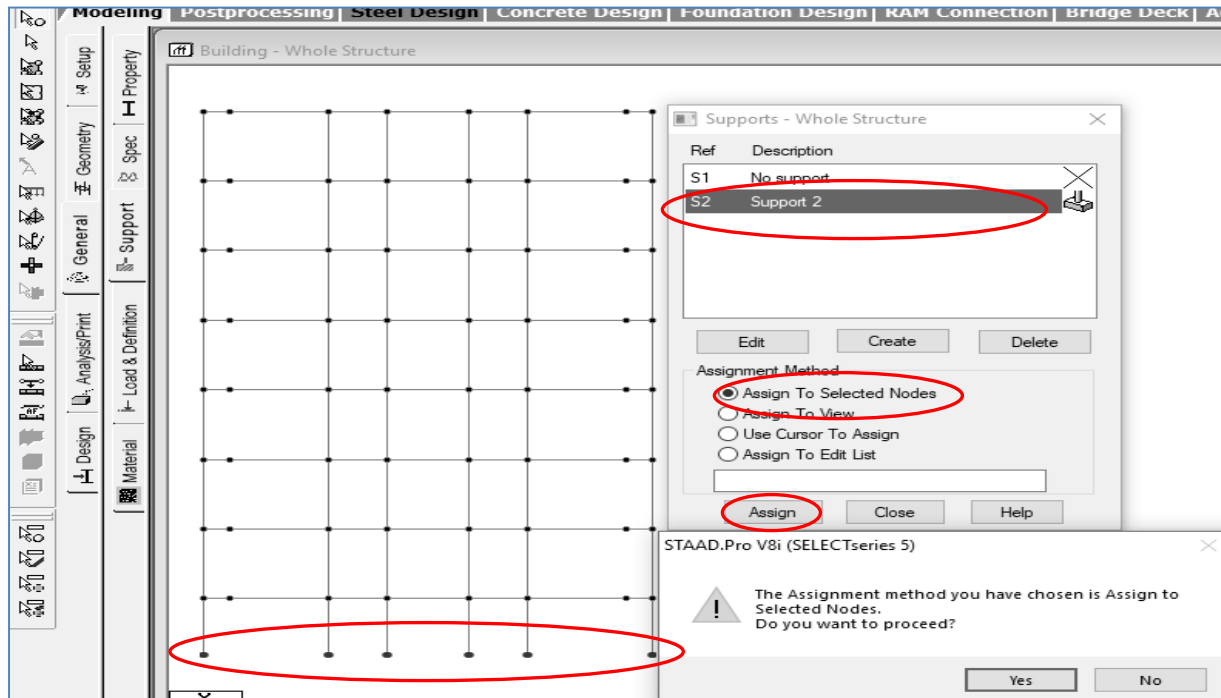

Fig: 5.12
2.1.3 Select S2 Support 2 → Select all bottom Nodes by using Node Cursor → Assign to Selected Nodes → Assign → Yes. (Fig: 5.12)